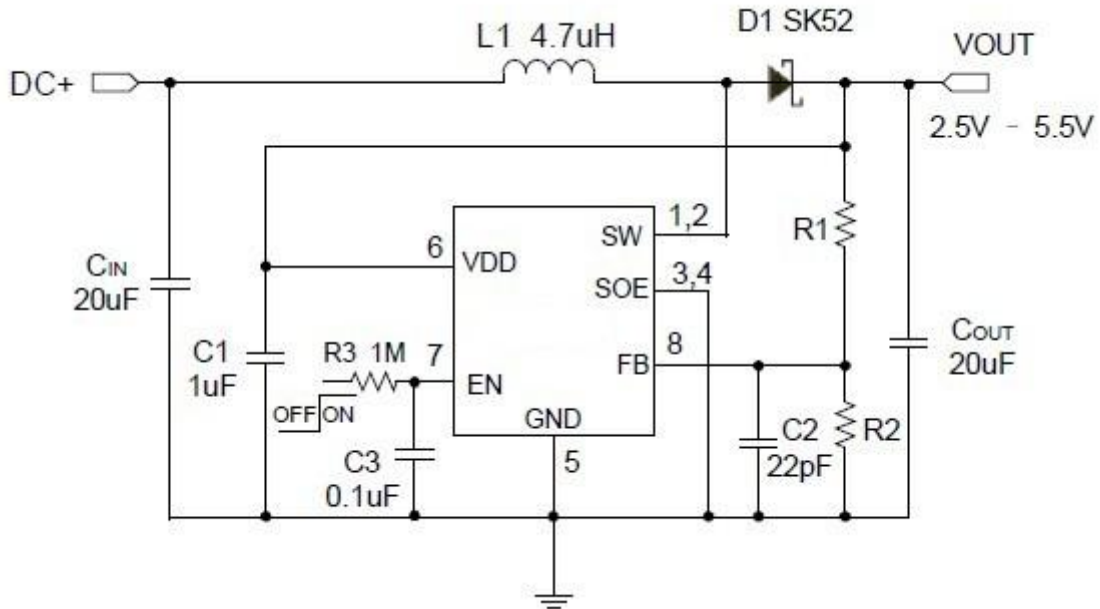

Figure 1: 1.1V Stat-up input Voltage
- $T_A=25^{\circ}\text{C}$, $L_1=4.7\mu\text{H}$, $C_{IN}=20\mu\text{F}$, $C_{OUT}=20\mu\text{F}$, $C_1=1\mu\text{F}$, $C_2=0.1\mu\text{F}$, $C_3=22\text{pF}$, $R_1=300\text{k}$, $R_2=95\text{k}$, $D_1=SK52$, unless otherwise noted.(high saturated inductor current Figure. 1)